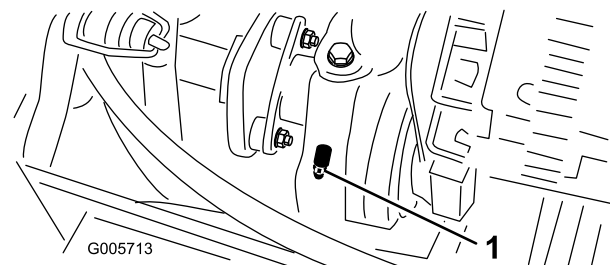

Figure 39
- Engine output shaft bearing (Figure 39)